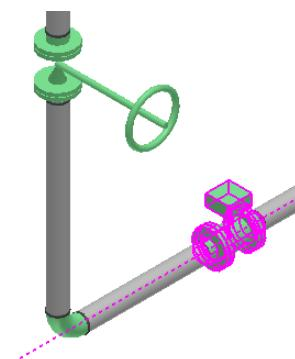

Figure 67: Mating Part
2. In the graphic view, select **FE-523** from pipeline **P-204**, as shown in Figure 67.